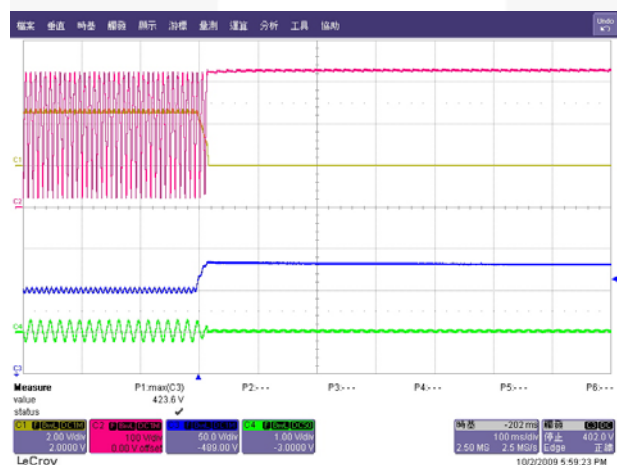

Figure 17. 230VAC 100% to 0% Line Transient
7. Figure 17 and Figure 18 show the load-transient operation. When the output load changes from 100% to 0%, 23.6V (6.1% of nominal output voltage) voltage overshoot is observed. When the output load changes from 0% to 100%, 23.9V (6.13% of nominal output voltage) voltage undershoot is observed.